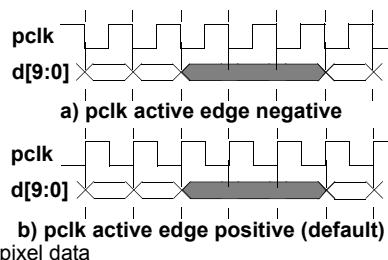

Figure 32. pclk in Free Running Mode
- In free running mode, (the *PixClkMode* bit of DVBUSCONFIG1 register is set to a logic 0), the pixel clock output pin, **pclk**, is always running with a fixed period. Pixel data appearing on the digital video bus **d[9:0]** are synchronized to a specified active edge of the clock as shown in Figure 32.